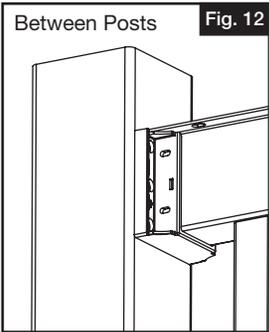

Fig. 12
- i. Make sure rails are fully seated with balusters and level and centered to post sleeve. While holding the top bracket snug to rail from underneath, and using $\frac{1}{8}$ " drill bit, pre-drill first top bracket screw hole (Fig. 12 & 13). Drill through bracket hole, vinyl post sleeve and vinyl insert and loosely install first #10 x $1\frac{1}{2}$ " screw.
- ii. Repeat pre-drilling process for remaining three screws (Fig. 12 & 13).